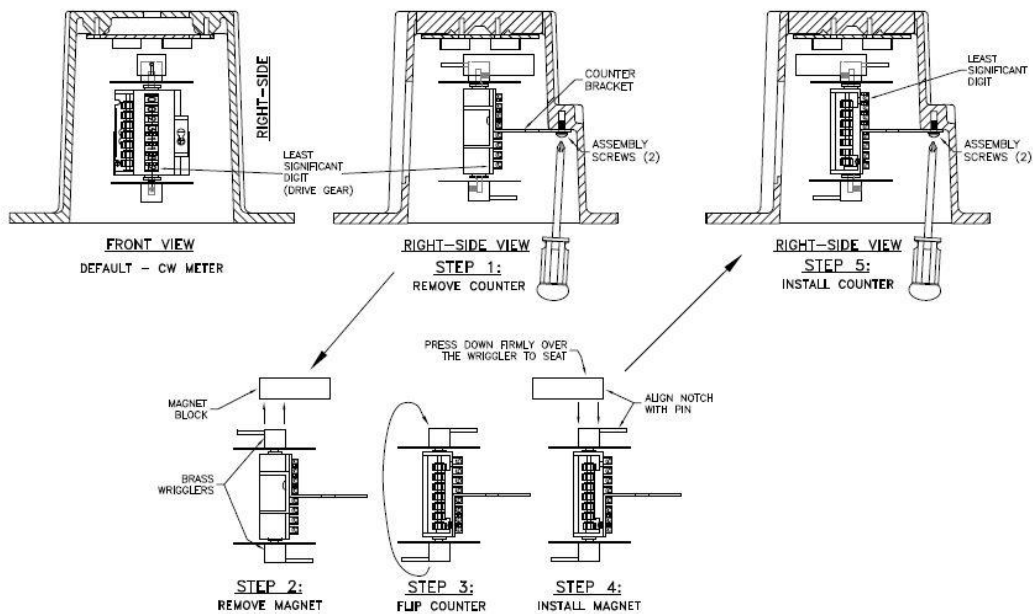

Figure 7 – Reversing the Index Rotation
1. Check the meter drive rotation by looking down on the meter-driving dog. Note whether it rotates clockwise (CW) or counterclockwise (CCW).
2. The standard index is setup for clockwise (CW) meter drives. The rotation of the unit can be changed for counterclockwise (CCW) meter drives. See Fig. 7 - Reversing the Index Rotation.
The default configuration of the counter is as shown in Step 1 of Fig 7, with the most significant digit at the top, and the least at the bottom. This would be used on meters having clockwise (CW) rotation. For meters having counterclockwise rotation, the counter assembly must be reversed as follows: